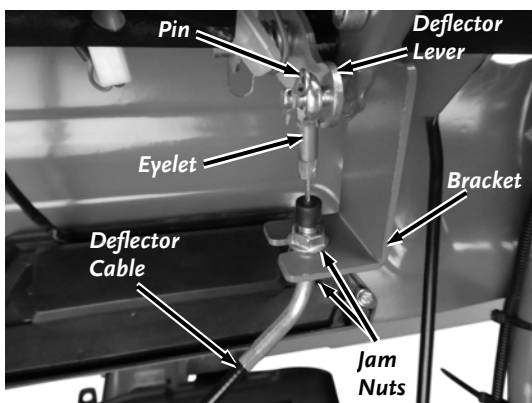

Figure 19
18. Install the Eyelet end of the Deflector Cable onto the Deflector Lever and secure with the Pin (**Figure 19**).